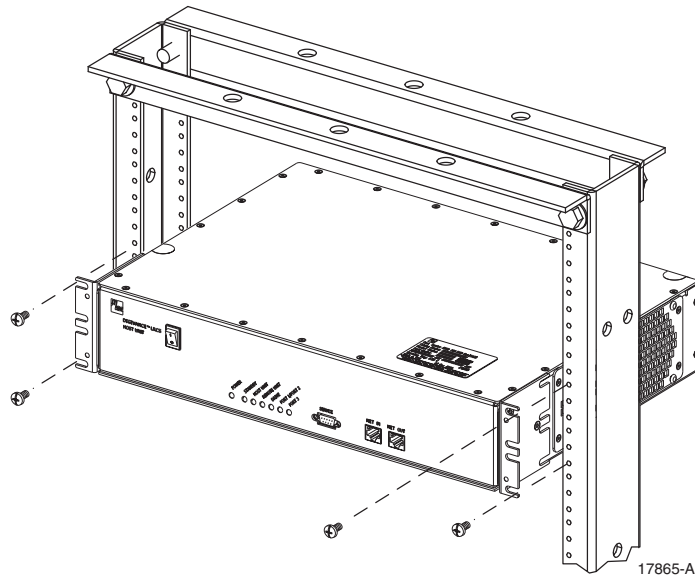

Figure 3-3. HU Rack Mount Installation
4. Position the HU in the designated mounting space in the rack (per system design plan) and then secure the mounting brackets to the rack using the four machine screws provided (use #12-24 or M6 x 10 screws, whichever is appropriate) as shown in Figure 3-3.